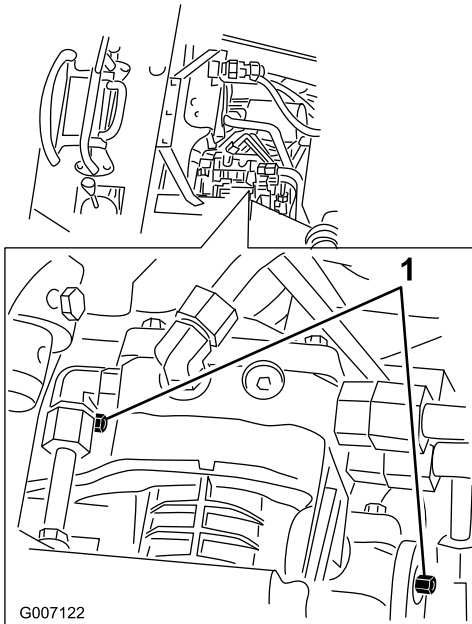

Figure 28
3. Using a wrench, turn the tow valves on the hydraulic pumps twice counter-clockwise (Figure 28).